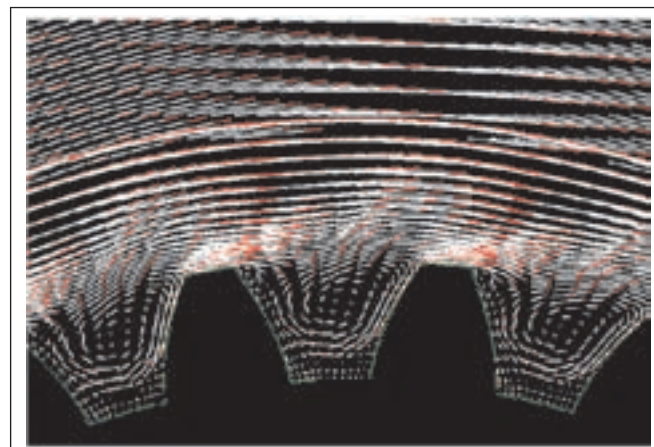
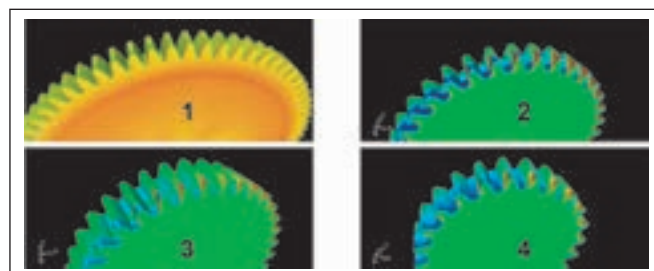
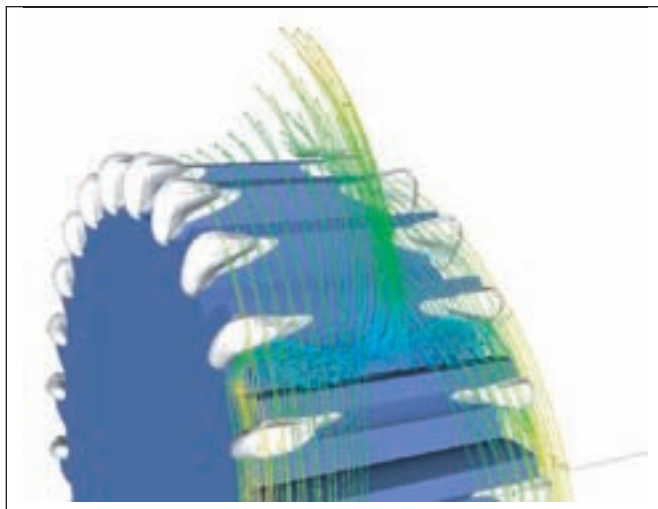

Figure 16—Predicted velocity vectors in the symmetry plane of a Diab gear.
Figure 17—Predicted surface pressure distributions for the four Diab gears.
Figure 18—Predicted relative frame streamlines and isosurface of a high pressure region for Diab Gear 4.
**Details of 3-D flow field.** A number of important physical features of the predicted flow field are available upon interrogation of the CFD simulations. Figure 16 shows a view of the predicted secondary velocity vectors on the symmetry plane in the gear-relative frame of reference for one of the Diab cases. One can see a significant vortical structure within the gear tooth region, and the tooth-to-tooth periodicity that has been achieved in the transient simulation. Figure 17 shows a view of the predicted surface pressure distributions for the four Diab gears. There, comparatively large vs. small pressures are observed on the leading and trailing tooth faces, this difference being the source of the pressure component of the spin-down torque. The 3-D nature of the flow in these relatively low aspect ratio spurs gears is also clearly seen (figure shows only 1/2 of each gear). Significant 3-D effects are also clearly visualized in Figure 18, where gear-relative streamlines are displayed in the near-tooth region along with an isosurface of predicted static pressure in a region of high pressure.